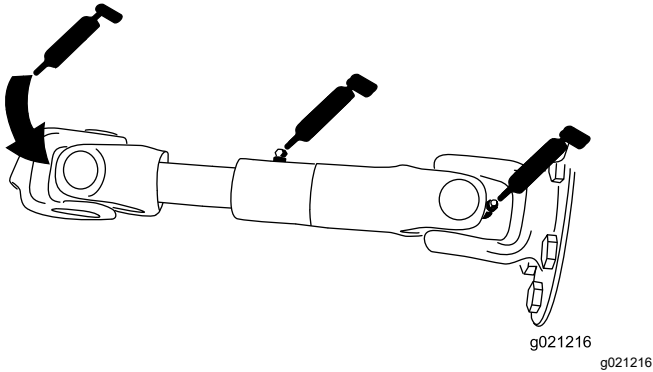

Figure 73
- Pump driveshaft (3) (Figure 73)